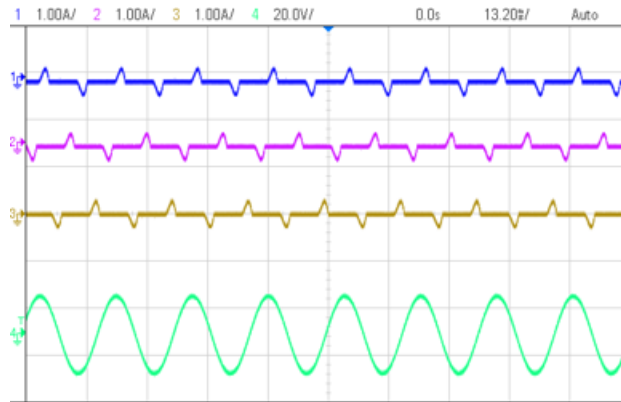

Figure 24. Build Level 1: Scope Capture IL1, IL2, IL3 and V1 (120Vrms L-N) With PWM Tripped
6. The scope capture of the input voltage and currents is shown in Figure 24.